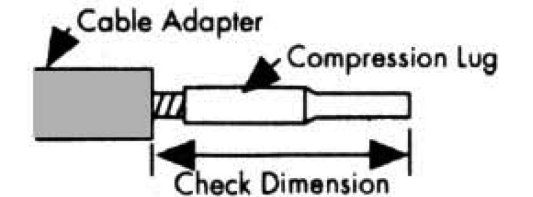

Fig. 7 - Check & Crimp
A. Use a wire brush to clean the exposed conductor and immediately install the compression connector on the conductor. Rotate the connector to spread the inhibitor. Make sure the connector is fully seated. Verify check dimension is less than 6 1/2" prior to crimping. (See Figure 7.) Refer to crimp chart packed with connector.